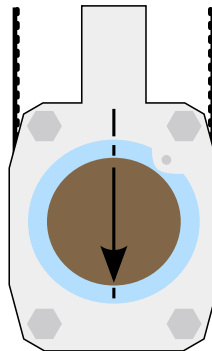

Figure 8: Inserting position for 3D Rotator
Switch **ON** the Kappabridge, run the SAFYR software, push **ACTIVATE** button, choose AMS measuring mode and continue with the activation. Software detects the type of connected rotator automatically. Run `Execute|Calibration` and `Execute|Holder Correction` using 3D rotator. Routines are similar to the using Classical Rotator major difference is in the inserting position of the specimen which is as shown on the Fig. 8.
- For calibration with the **3D rotator** insert the calibration standard as shown on Fig. 8.